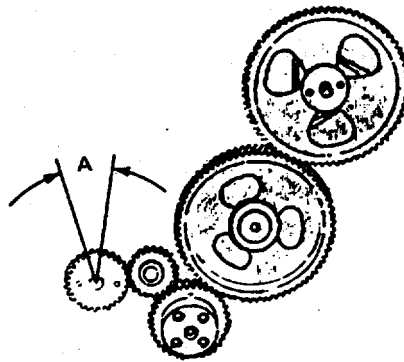

FIGURE 3-57. Lube Oil Pump Gear Backlash.
3-26. Replace/Repair Lube Oil Pump Group. (FIGURES 3-57 through 3-71)
- j. Measure gear backlash. (FIGURE 3-57)